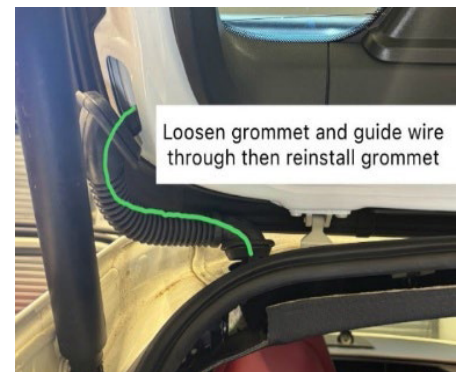

Figure 13. Wiring Sleeve Between Body and Rear Lid
2.3.3 Route wiring through sleeve on the Driver Side (Figure 13)